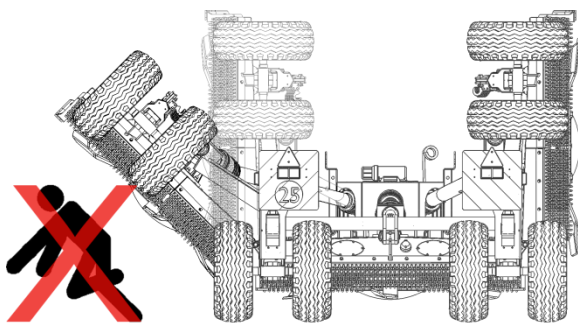

Figure 5.58
5.6.2.1 Clear the area of all personnel before lowering the wings; see Figure 5.58.